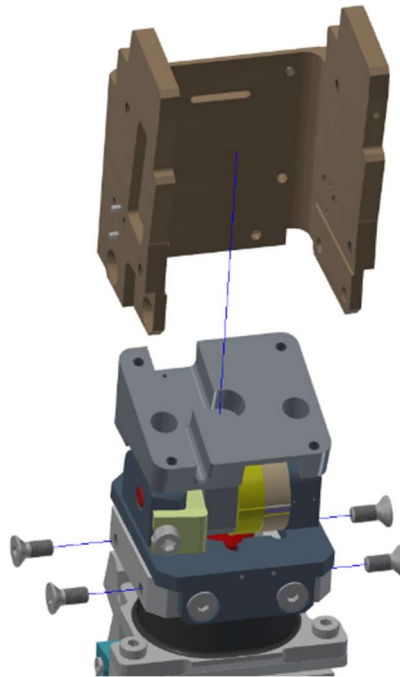

Figure 6-55. Secure the Upper Spine Box (474-3100-A) to the Upper Spine Assembly (474-3240)
- 6.3.24 Attach the Upper Spine Box (474-3100-A) to the Upper Spine Assembly (474-3240) using four M6 X 1 X 14 LG. FHCS (Figure 6-55).